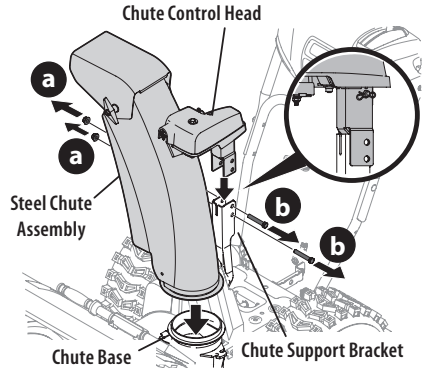

Figure 27
1. Remove lock nuts (a) and hex screws (b) from chute support bracket (this will require two wrenches) (Figure 27).
2. Place steel chute assembly onto chute base and chute control head onto chute support bracket (Figure 27).